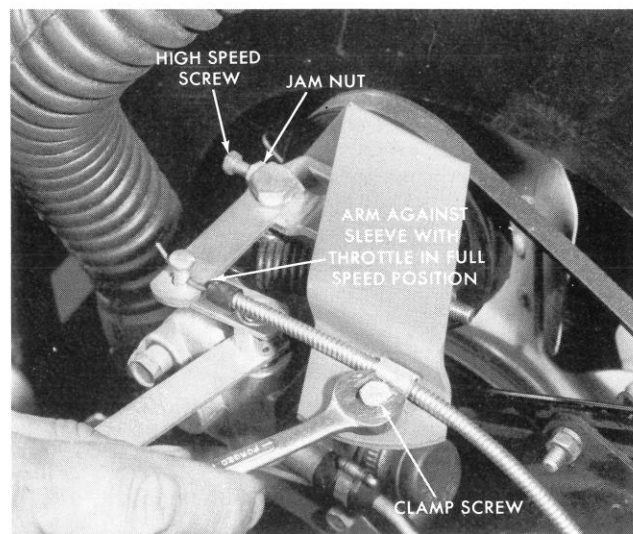

Figure 42
7. Place throttle lever in FULL SPEED position. Adjust the high speed stop screw to limit maximum speed at  $3450 \pm 100$  RPM. Secure the adjustment with the jam nut. Figure 42.
8. Adjust the bowden wire clamp so the governor arm rests against the sleeve when the throttle lever is in the FULL speed position and lever is against the end of the slot. This will insure that no excessive pressure can be exerted against the linkage causing throttle settings to change. Figure 42.